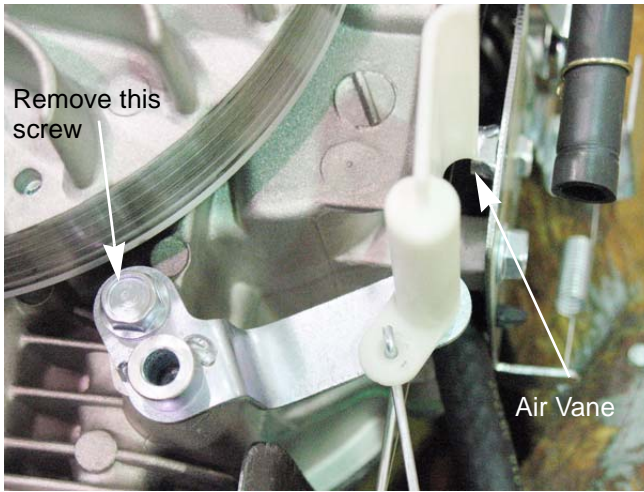

Figure 4.28
2. Loosen the screw that secures the air vane bracket to the cylinder block using a 10mm wrench. See Figure 4.28.